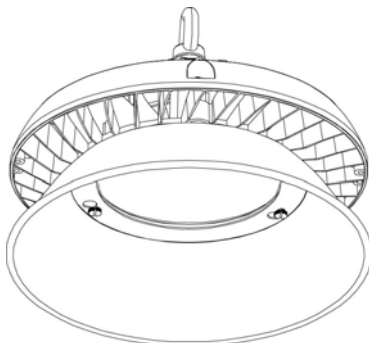

Figure 2
2.3 Tighten screws to secure reflector to fixture housing (see Figure 2). (Note: do not over tighten screws, could damage reflector).